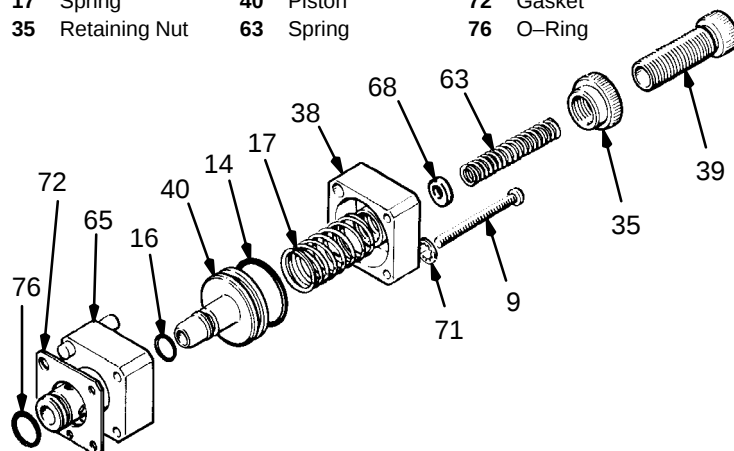

Fig 16
2. Remove the four slotted head screws (9) and lockwasher (71). See Fig 16.
3. Remove the retaining housing (38) and spring (17) from the valve housing (65).
4. Remove the valve housing (65). The piston parts from the gun body (56) will come out with the housing. Clean all the parts and replace any worn parts.
5. Lightly coat all the parts with petroleum jelly, then reassemble the parts as shown in Fig 16.